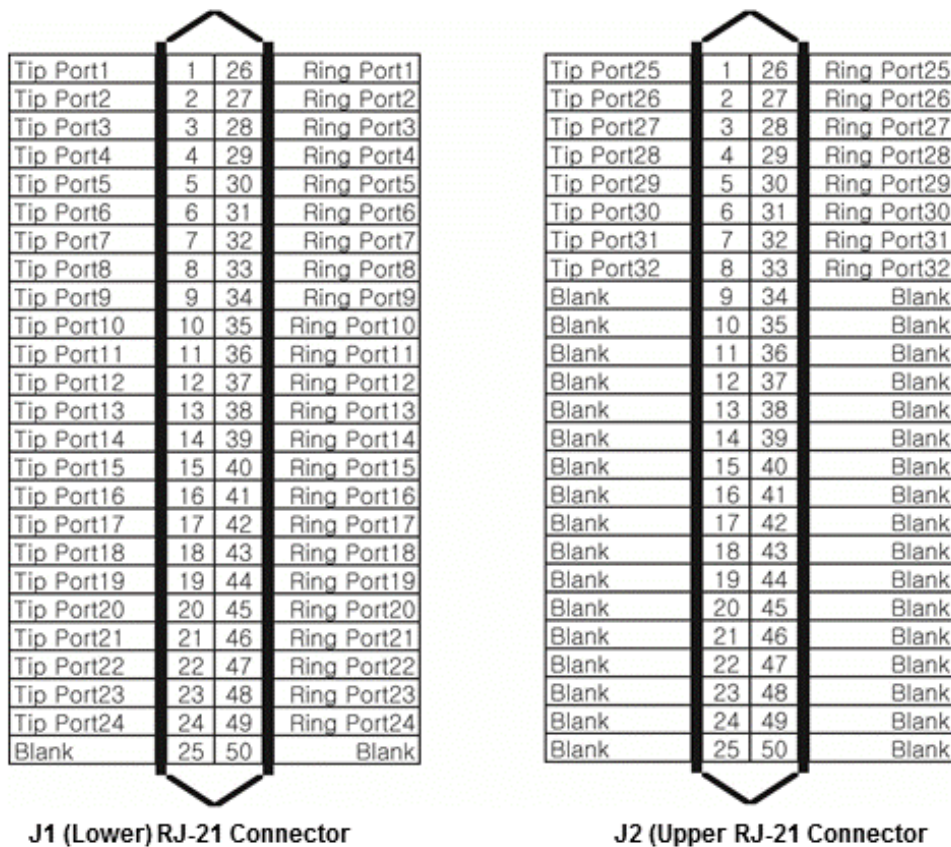

Figure 6.11-2 SLTM32 RJ-21X Connector Configuration
On the rear are two (2) 25-pair RJ-21x style connectors terminated as shown in Figure 6.11-2. These connectors should be wired to the SLT termination point as shown in the figure.